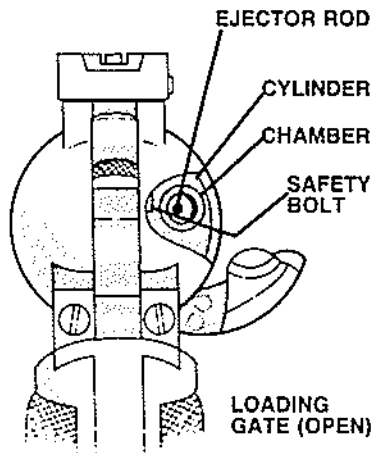

FIGURE 7-
3. Open loading gate by swinging it out to the right, exposing back of cylinder and a chamber. See Figure 7.